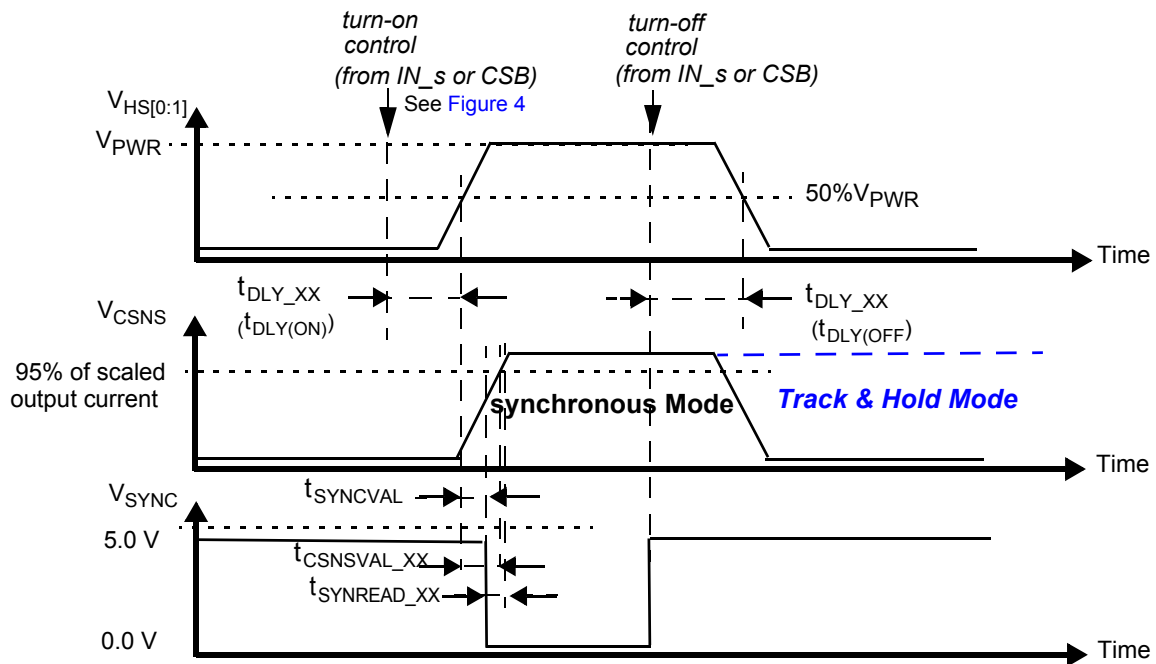

Figure 9. Synchronous & Track-and-Hold Current Sensing Modes: Associated Delay & Settling Times
29. Time required to switch off the channel after detection of overtemperature (OT), overcurrent (OC), SC or UV error (time measured between start of the negative edge on the FSB pin and the falling edge on the output voltage until $V(HS[0:1]) = 50\%$ of V_{PWR}).
30. Settling time (= $t_{CSNSVAL_XX}$), SYNC output signal delay (= $t_{SYNCVAL_XX}$) and Read-out delay (= $t_{SYNREAD_XX}$) are defined for a stepped load current ($100\text{ mA} < I(\text{LOAD}) < IOCLX\text{ A}$ FOR CSNS_RATIO_S = 1, AND $300\text{ mA} < I(\text{LOAD}) < IOCLX\text{ A}_0$ FOR CSNS_RATIO_S = 0). (see Figure 9 and Output Current Monitoring \(CSNS\))
The CS pin allows independent current monitoring of channel 0 or channel 1 up to the steady-state overcurrent threshold. It can also be used to sense the device temperature. The different functions are selected by setting bits CSNS1_en and CSNS0_en to the appropriate value (Table 23). When the CSNS pin is sensed during switch-off in the (optional) track & hold mode (see Figure 9), it outputs the scaled value of the load current as it was just before turn-Off. When several devices share the same pull-down resistor, the CSNS pins of devices the current of which is not monitored must be tri-stated. This is accomplished by setting CSNS0_en = 0 and CSNS1_en = 0 in the GCR register (Table 10). Settling time ($t_{CSNSVAL_XX}$) is defined as the time between the instant at the middle of the output voltage's rising edge ($HS[0:1] = 50\%$ of V_{PWR}), and the instant at which the voltage on the CSNS-pin has settled to $\pm 5.0\%$ of its final value. Anytime an overcurrent window is active, the CSNS pin is disabled (see Overcurrent Detection on Resistive and Inductive Loads). The current and temperature sensing functions are unavailable in Fail-safe mode and in Normal mode when operating without the V_{DD} supply voltage. In order to generate a voltage output, a pull-down resistor is required ($R(CSNS)=1.0\text{ k}\Omega$ typ. and $470 < R(CSNS) < 10\text{ k}$). When the current sense resistor connected to the CSNS pin is disconnected, the CSNS voltage is clamped to $V_{CL(CSNS)}$. The CSNS pin can source currents up to about 5.6 mA.
To synchronize current sensing with an external process, the SYNC signal can be connected to a digital input of an external MCU. SYNC is asserted logic low when the current sense signal is accurate and ready to be read. The current sense signal on the CSNS pin has the specified accuracy $t_{SYNCREAD_XX}$ seconds after the falling edge on the SYNC pin (Figure 9) and remains valid until a rising edge is generated. The rising edge that is generated by the SYNC pin at the turn-OFF instant (internal or external) may also be used to implement synchronization with the external MCU. Parameter $t_{SYNCVAL_XX}$ is defined as the time between the instant at the middle of the output-voltage rising edge ($HS[0:1] = 50\%$ of V_{PWR}), and the instant at which the voltage on the SYNC-pin drops below 0.4 V (V_{SOL}). The SYNC pins of different devices can be connected together to save μ -controller input channels. However, in this configuration, the CSNS function of only one device should be active at a time. Otherwise, the MCU does not determine the origin of the SYNC signal. The SYNC pin is open drain and requires an external pull-up resistor to VDD.